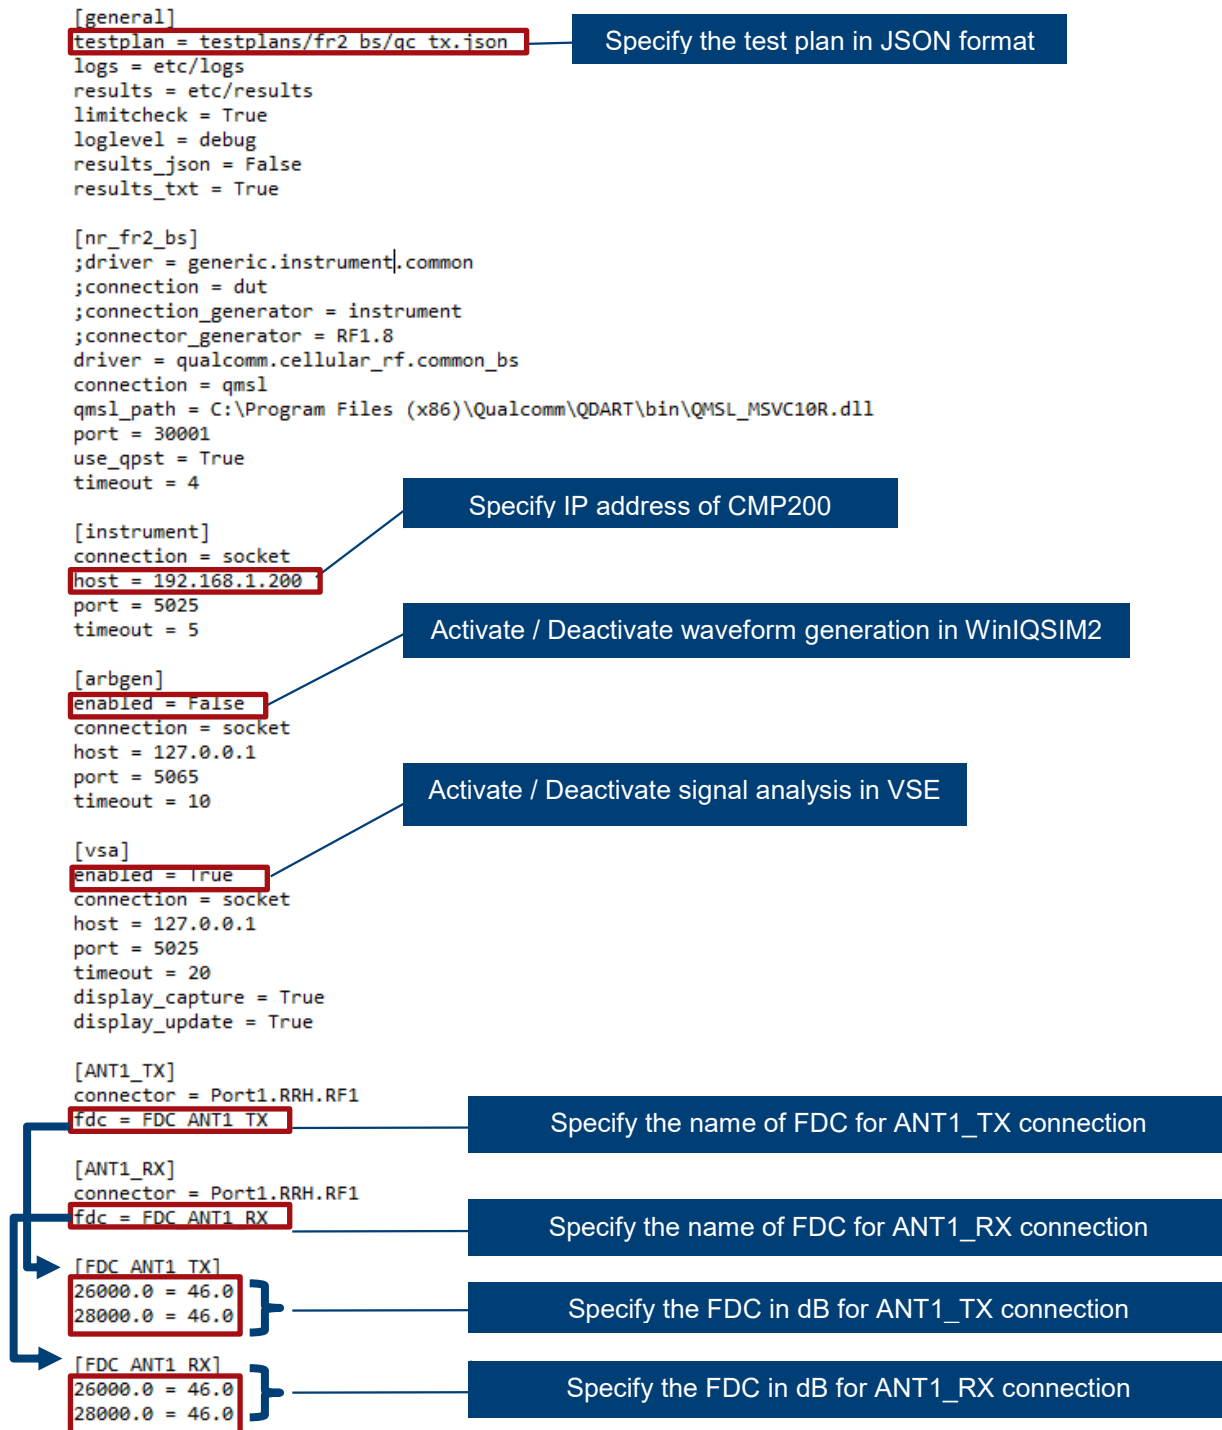

Figure 2-24 Example 'testconfig.ini' configuration file
3. Launch VSE software on control PC unless signal analysis in VSE is disabled in test configuration 'testconfig.ini' file. Default setting will enable the VSE for signal analysis (details see Figure 2-24).
An example test configuration file named 'testconfig.ini' where the most relevant settings are highlighted in Figure 2-24. Bear in mind that the FDC values entered in the configuration file are based on the OTA system calibration described conceptually in Chapter 1.2.2.